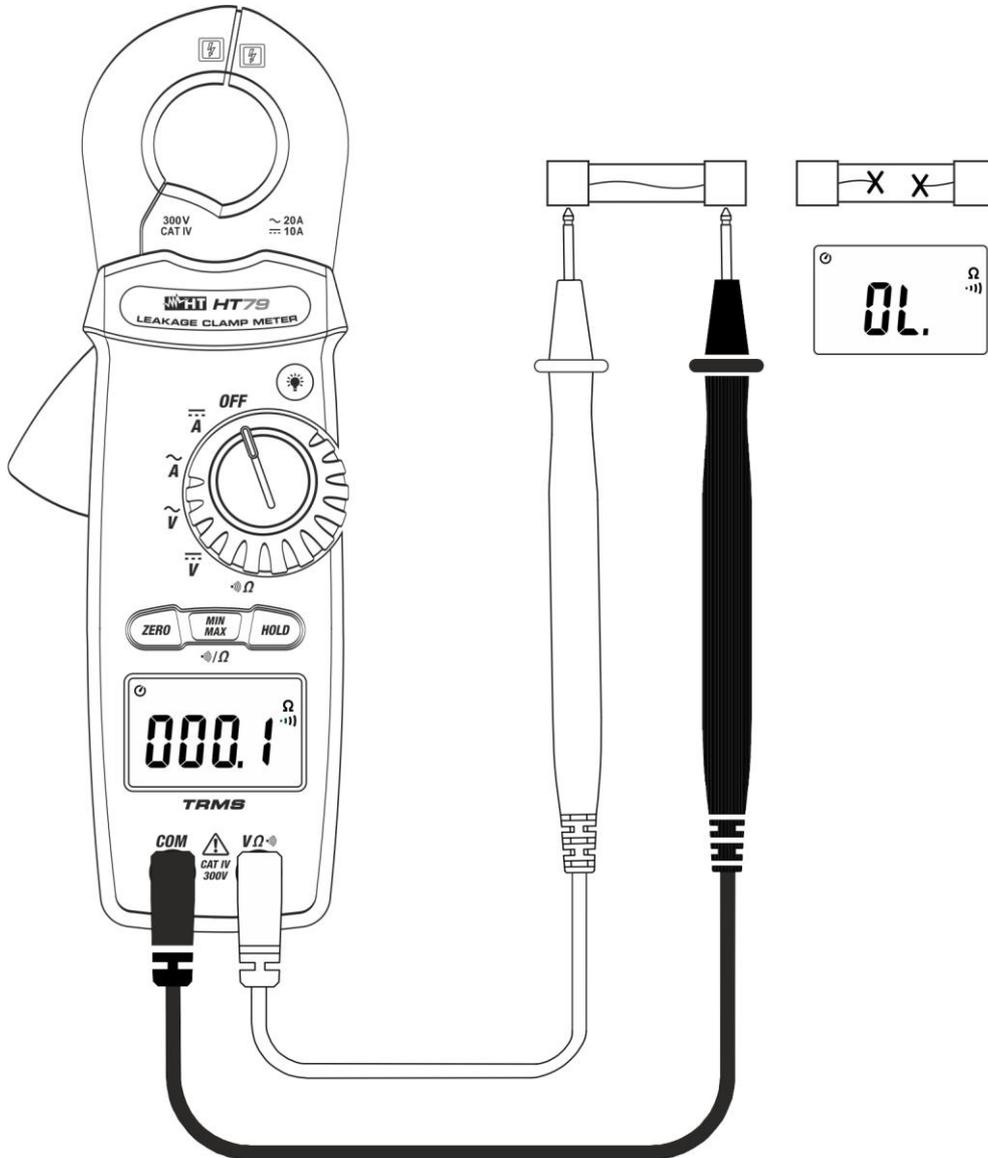

Fig. 7: Use of the instrument for Continuity test
3. Insert the red cable into input terminal **V Ω)** and the black cable into input terminal **COM** and carry out the continuity test on the object to be tested (see Fig. 7). An buzzer sounds when the measured value of resistance is lower than 100. Ω